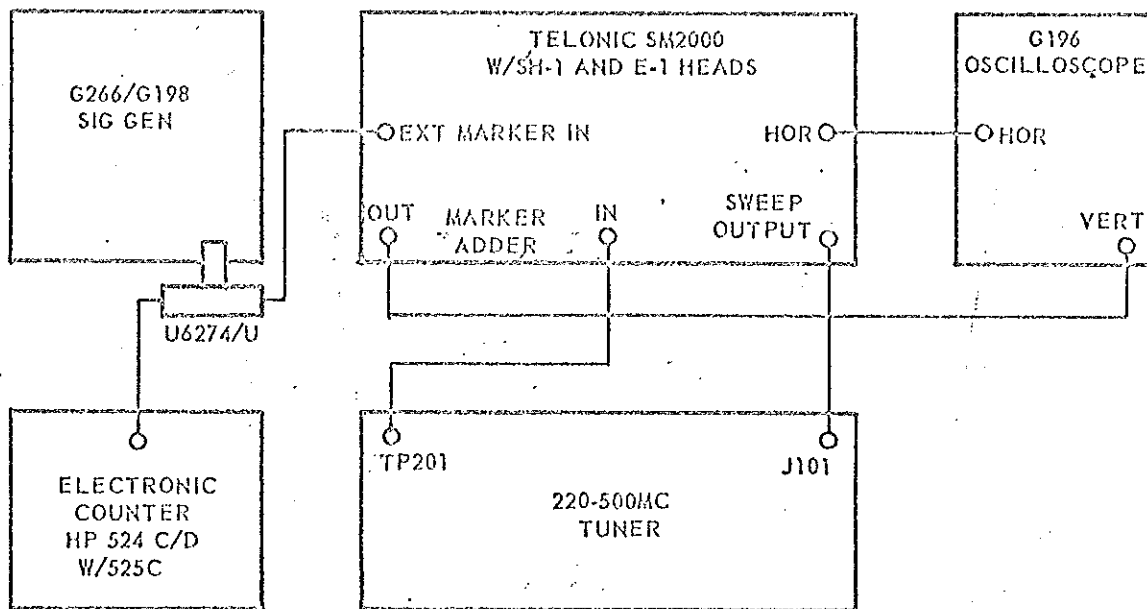

Figure 5-5
- d. Connect test equipment as shown in figure 5-5, except transfer connection shown at J101 to junction of post (located near cathode of V202) and C207.
k. Solder L220 and R202 back to the junction post from which they were removed and connect the test equipment as shown in figure 5-5.